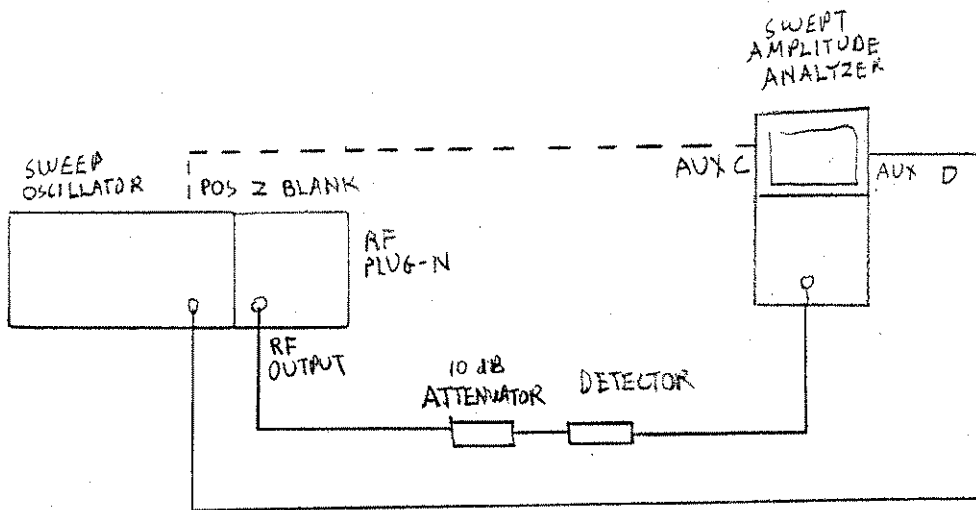
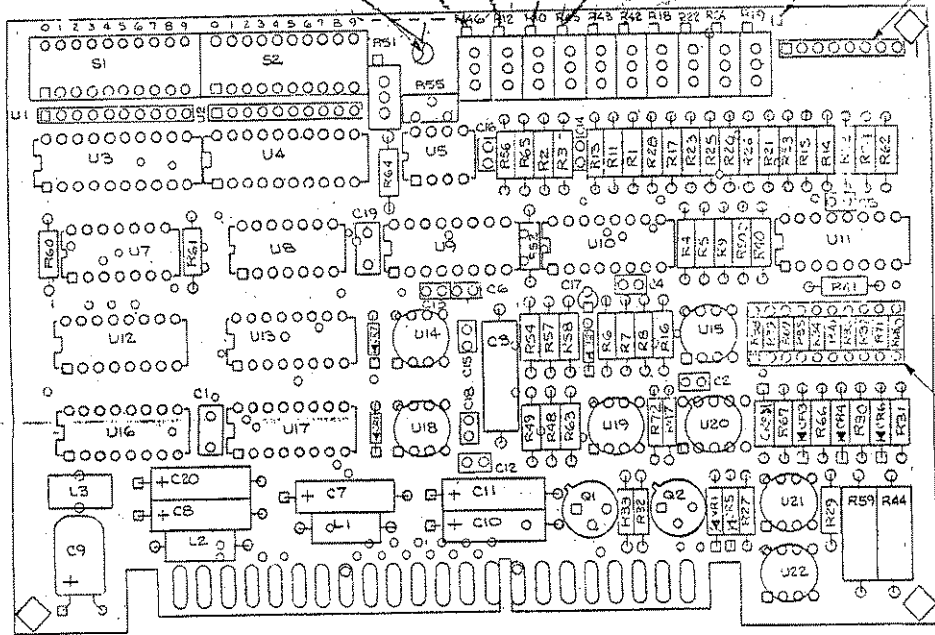

Figure 5-24. YTM Delay Compensation Adjustment Test Setup
Figure 5-25. YTM Delay Compensation Adjustment Locations
1. Connect the equipment as shown in Figure 5-24. Do not connect the BNC cable between the 8350A rear panel POS Z BLANK and the 180TR AUX C connector yet. Preset A7R45 (SEQ TC) fully counter-clockwise. Refer to Figure 5-25 for adjustment locations. Allow the equipment to warm up for 1 hour.
2. Adjust A2R6 (BAND 0 OFFSET) to the center of its mechanical range. Refer to Figure 5-24 for the adjustment location.